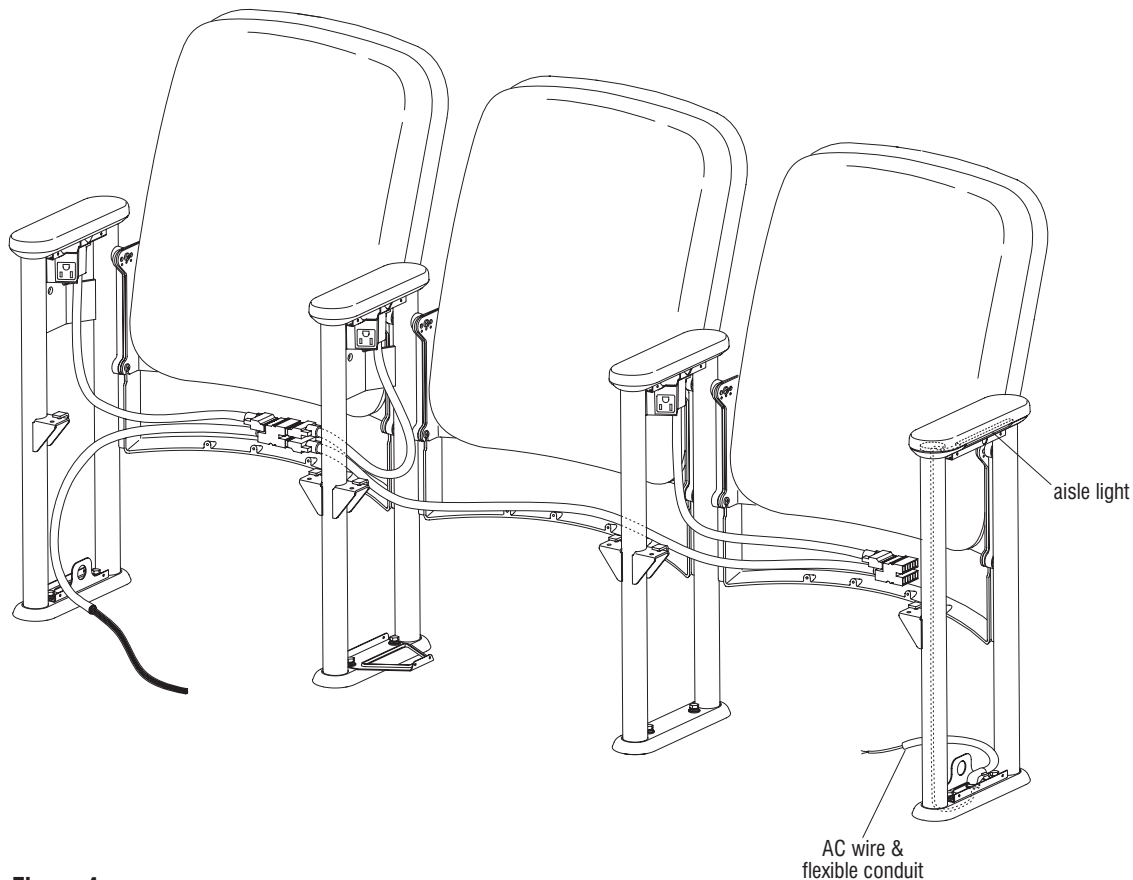

Figure 4
**Note:** Review space-planning layout provided to identify which uprights are to be equipped with tablet arms and/or aisle lights (Figure 4). Tablet arm uprights have a pivot mount bracket between the top of the uprights (Figure 6).